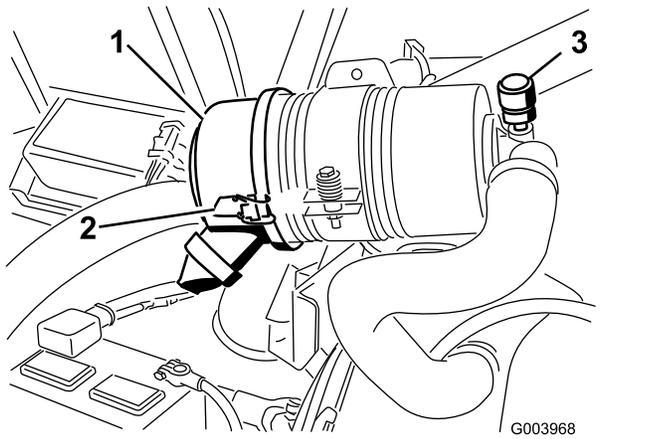

Figure 74
Service the air cleaner filter only when the service indicator (Figure 74) requires it. Changing the air filter before it is necessary only increases the chance of dirt entering the engine when the filter is removed.
1. Release the latches securing the air-cleaner cover to the air-cleaner body (Figure 74).